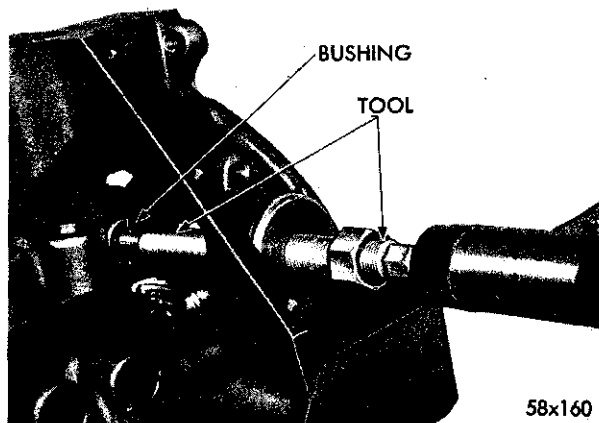
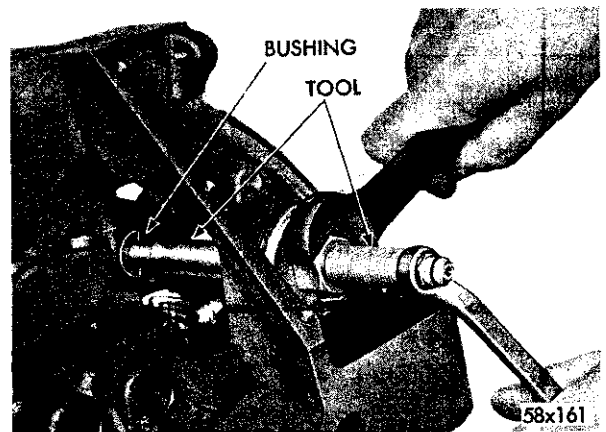

Fig. 32—Installing the Distributor Drive Shaft Bushing Using Tool C-3053
Fig. 33—Burnishing Distributor Drive Shaft Bushing
- (1) Slide a new bushing over the burnishing end of Tool C-3053 and insert the tool bushing into the bore, as shown in Figure 32.
- (2) Drive the bushing and tool into position, using a soft hammer.
- (3) As the burnisher is pulled through the bushing by tightening the puller nut, the bushing is expanded tight in the block and burnished to the correct size, as shown in Figure 33. **DO NOT REAM THIS BUSHING.**